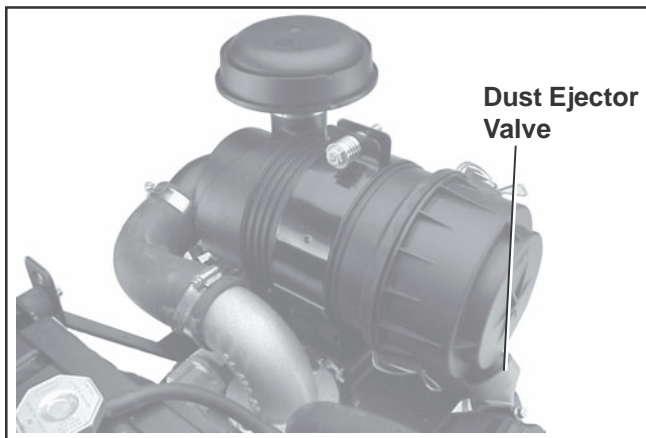

Figure 18. Air Cleaner Assembly.
7. Reinstall the end cap so the dust ejector valve is down and secure with the two retaining clips. See Figure 18.